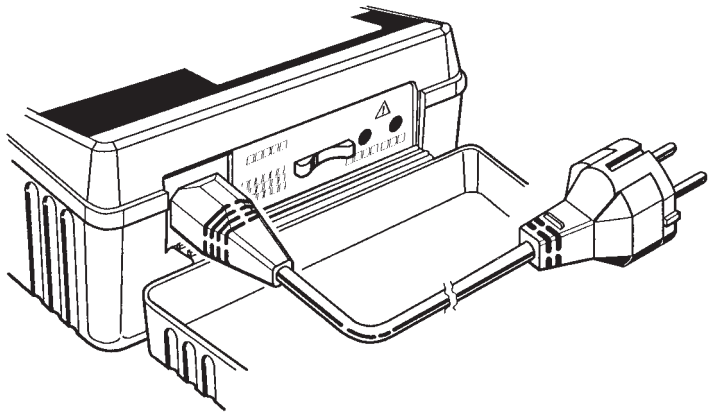
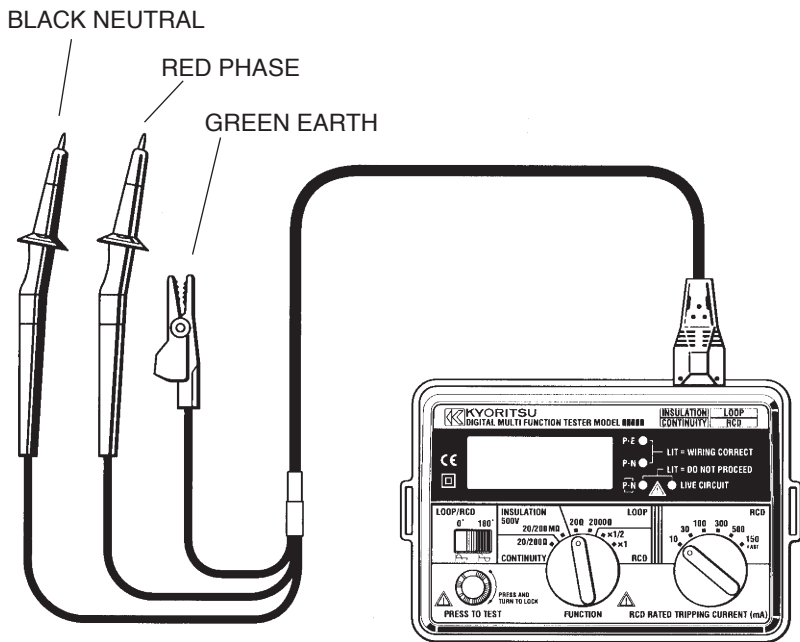

Fig 9
Fig 10
3. If testing sockets, connect the plug lead to the Model 6010A and push the moulded plug into the socket to be tested (see Fig 9).
7. If testing lighting or other circuits, connect the three-wire lead OMA DIEC to Model 6010A, connect the red (phase) lead to the phase connection of the circuit under test, connect the black (neutral) lead to the neutral connection of the circuit under test, and connect the earth lead to the earth associated with the circuit. (see Fig 10).
5. Connect the instrument to the RCD to be tested either via a suitable socket outlet (see fig 9) or using the OMA DIEC test lead set (see fig 10) .